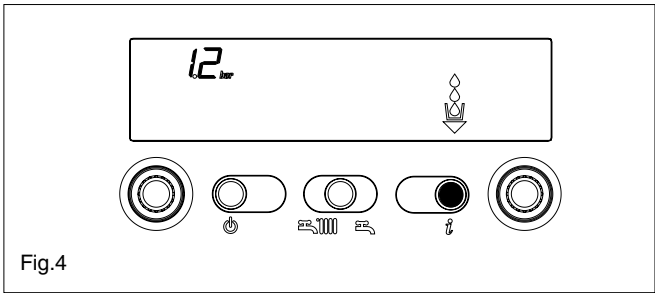

Fig.4
- Info 2** water pressure (fig. 4)